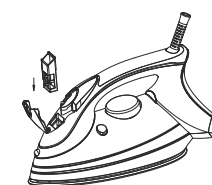

Fig.5
- Replace the Anti-calc box back into the filling hole as show in figure 5.